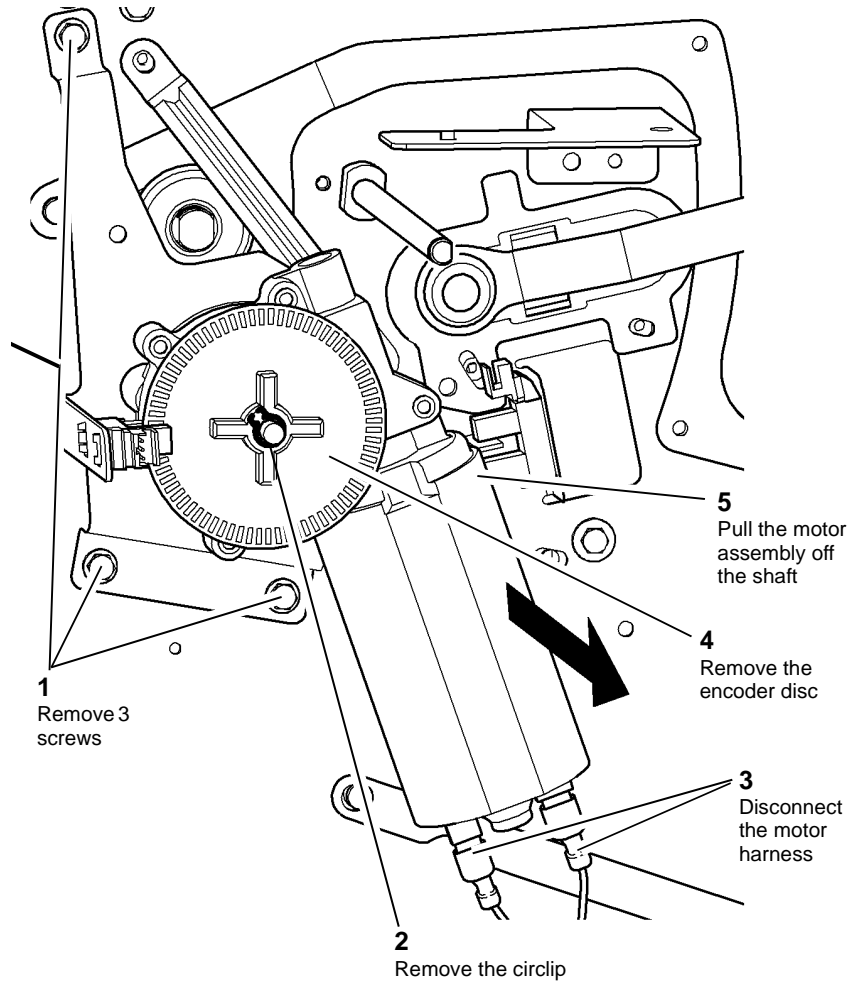

Figure 1 Motor assembly removal
3. Remove the motor assembly, Figure 1.